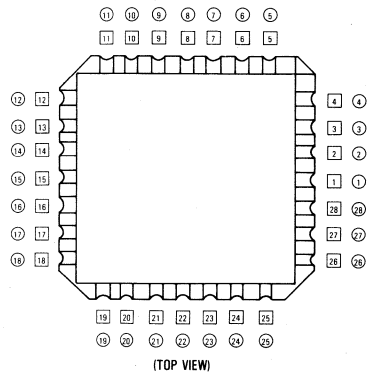

Figure 5: 28-Lead Pin-out for 28 Terminal Chip Carrier
2. Devices requiring 28 connections in a 28 pad chip carrier, see Figure 5.